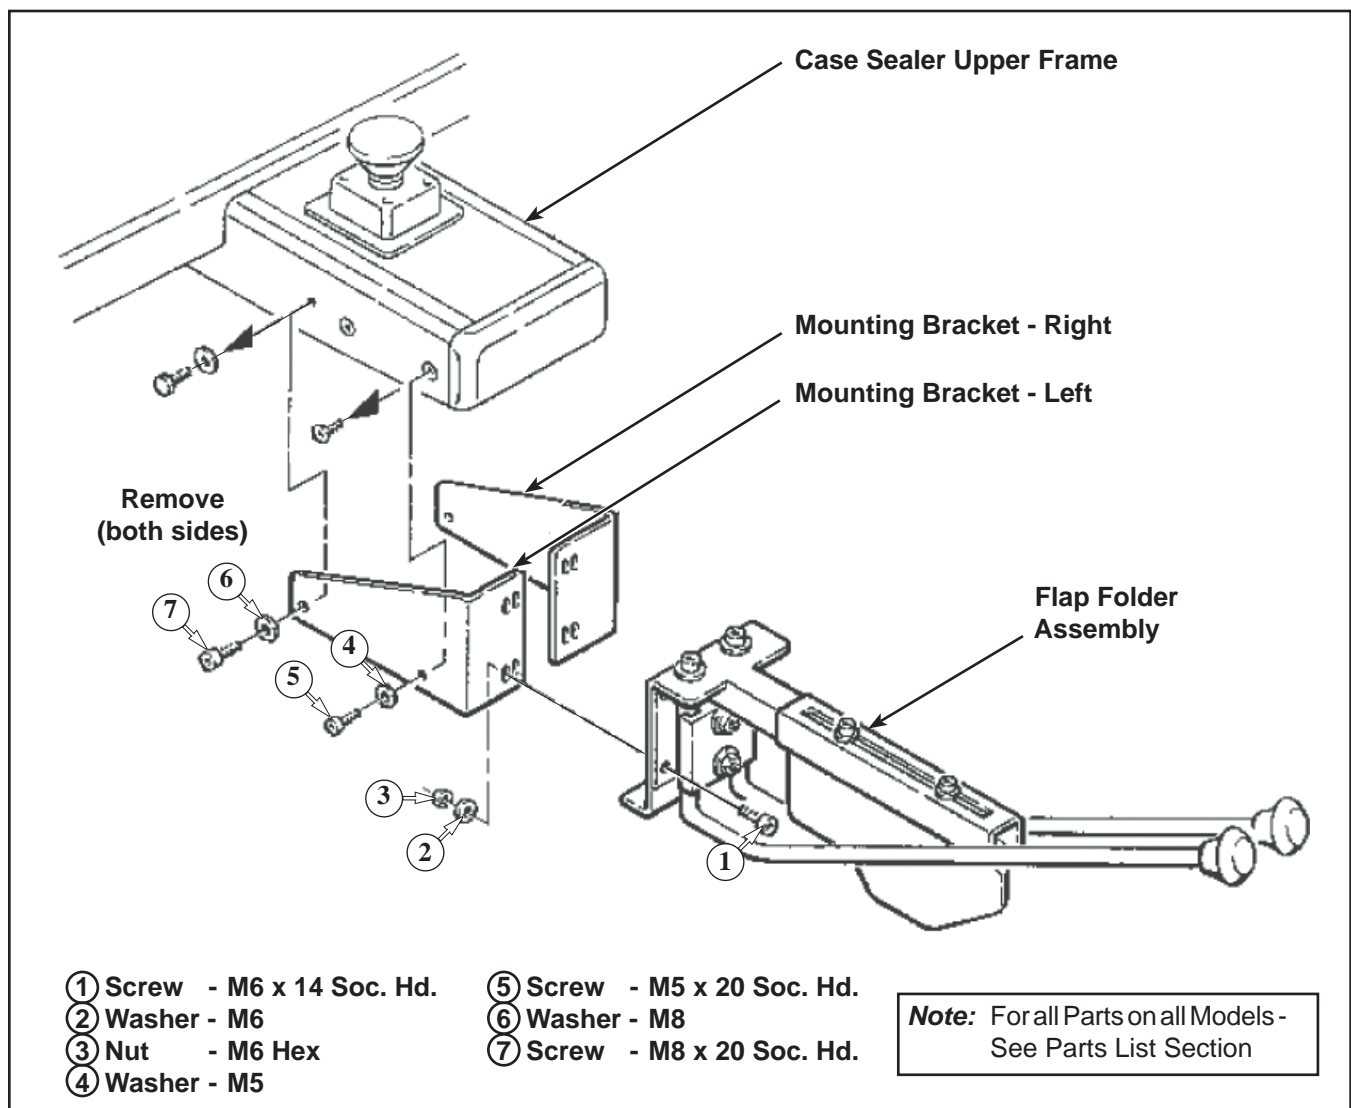

Figure 4 Installing Flap Folder (200a, 800a and 800a3 Case Sealer Bracket Mounting)
Installing Flap Folder on 200a, 800a or 800a3 Case Sealers – Figure 4.
3. Attach mounting brackets/flap folder to case sealer upper frame. Use screws and plain washers indicated (Figure 4).
4. Fasten corners of mounting bracket to flap folder assembly with four each of items ①, ②, and ③. Do not tighten nuts.
5. Attach mounting bracket/flap folder and roller/roller shaft to case sealer upper frame. Use screws and plain washers as indicated in **Figure 4**. Do not tighten nuts.